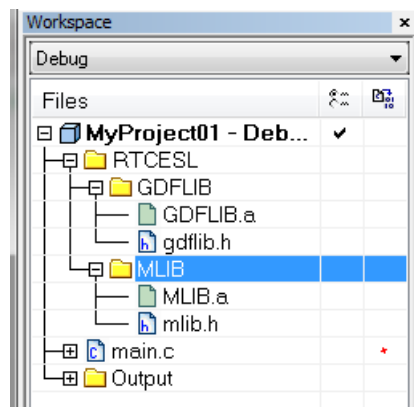

Figure 1-45. Project workspace
4. Click on the newly created node MLIB, and go to the main menu Project > Add Files... See Figure 1-45.
11. Now you will see the files added in the workspace. See Figure 1-45.